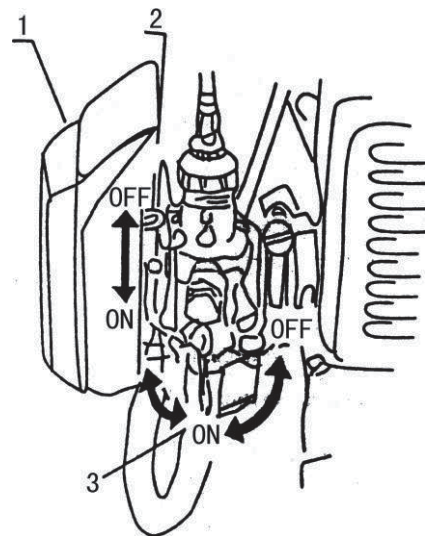

Fig.9
- 1) Turn on the fuel switch, see Fig.9.